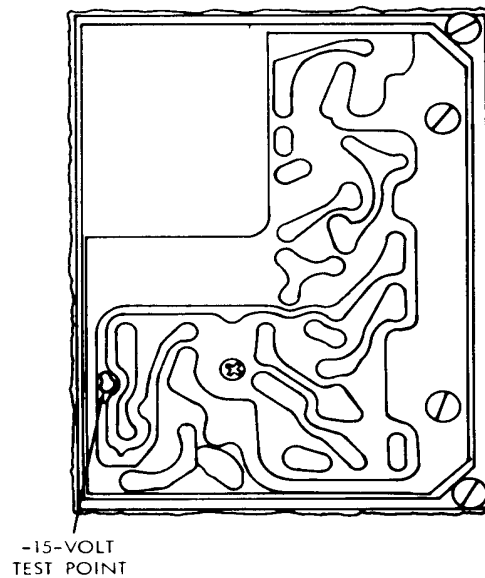

Figure 6. Current probe amplifier - right-interior view (types 131-1 through -4).
(1) Connect ac/dc voltmeter (A2) between -15-volt test point (fig. 6) and chassis ground. Ac/dc voltmeter will indicate between -13.5 and -16.5 volts.
(2) Vary autotransformer (A3) output between 105 and 125 volts. Ac/dc voltmeter indication will remain within limits of (1) above.
- (3) Adjust transformer for 115 volts ac.